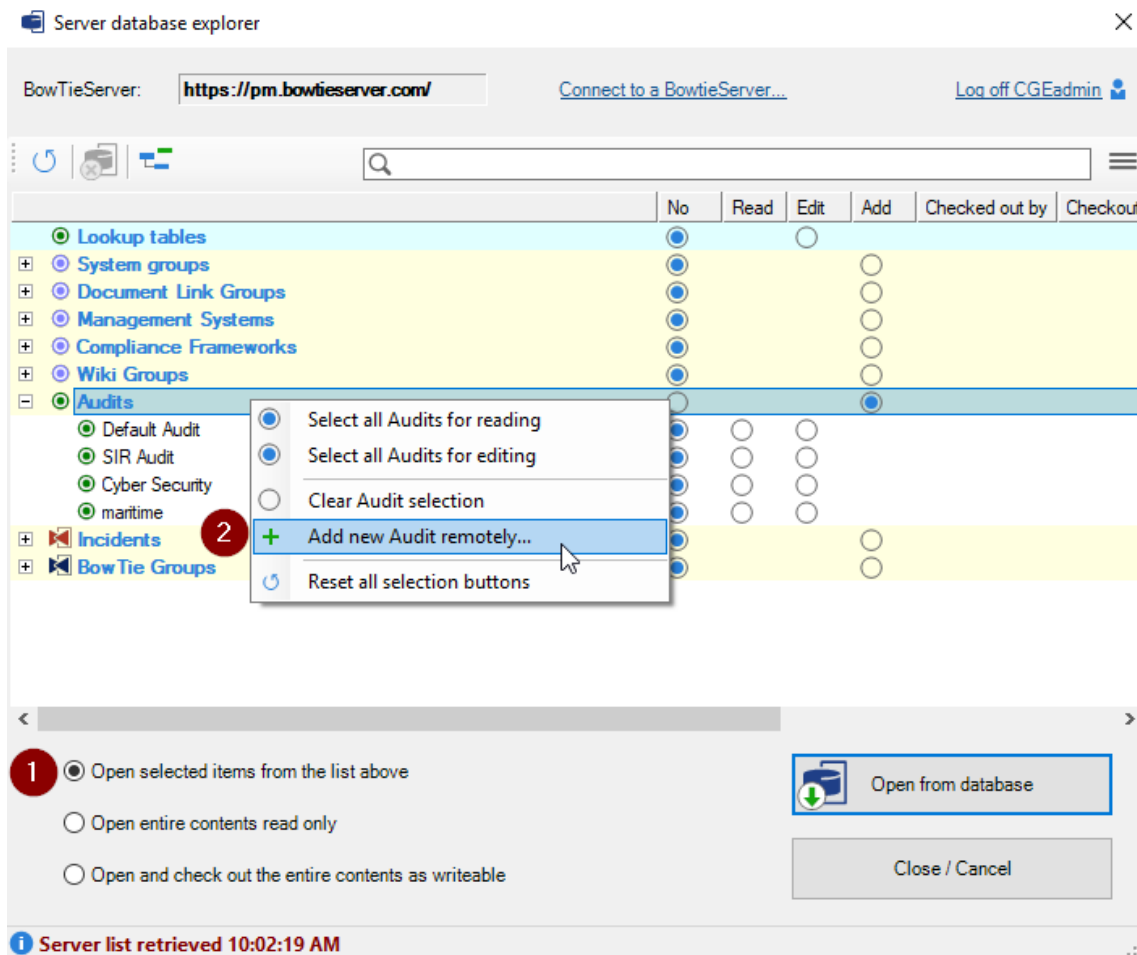
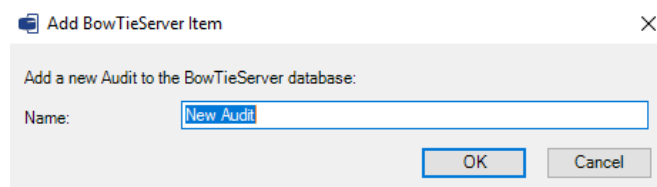
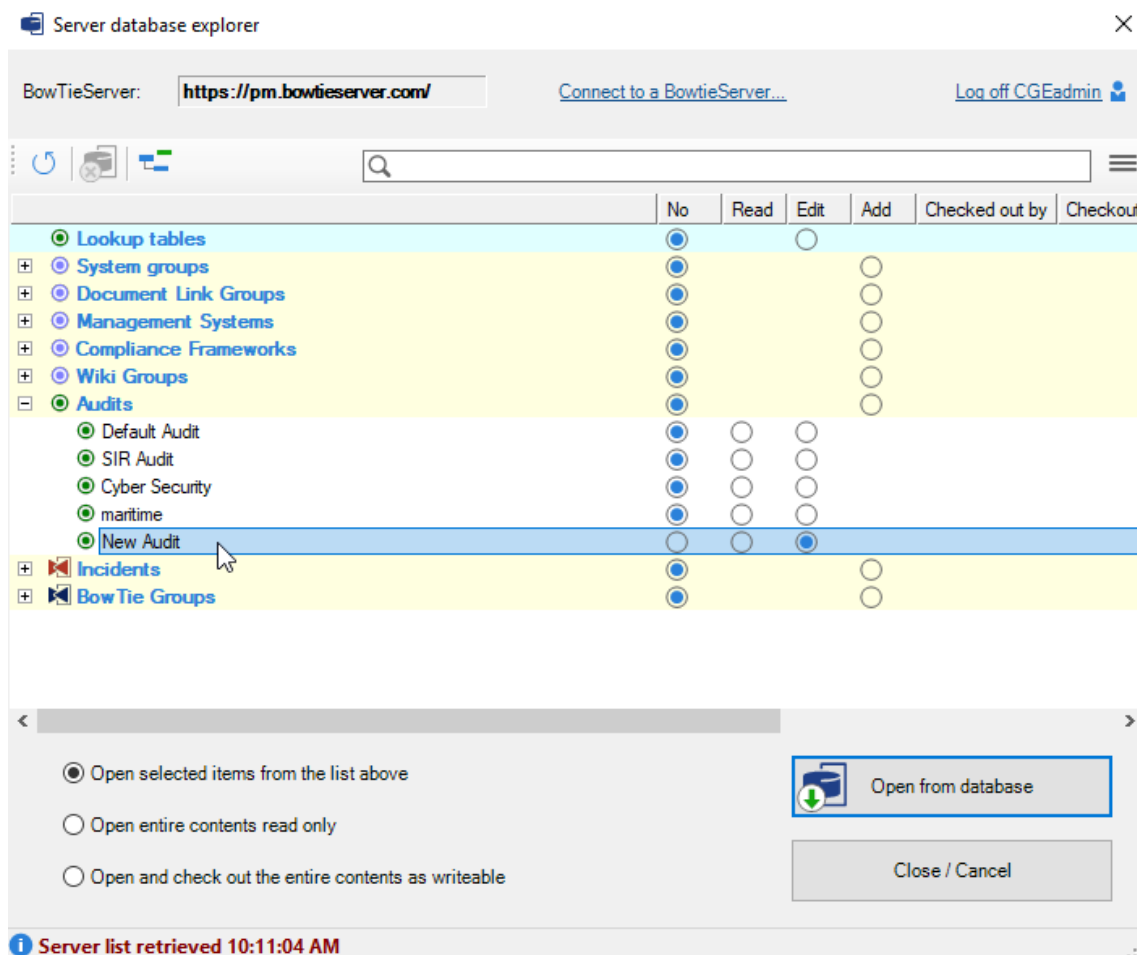

Figure 295 – Add new audit remotely (1/3)
Figure 296 -Add new audit remotely (2/3)
Figure 297 - Add new audit remotely (3/3)
To do this, follow these steps and also see Figure 295, Figure 296 & Figure 297 for reference. Connect with BowTieXP Enterprise using () (please see the BowTieXP Enterprise Software Manual on how to do this).
1. Select ‘Open selected items from the list above’ in the lower left bottom of the screen (Figure 295)
3. Enter a name for the new audit select ‘OK’ (Figure 296).
4. Select the edit radio button for the newly created audit (Figure 297).